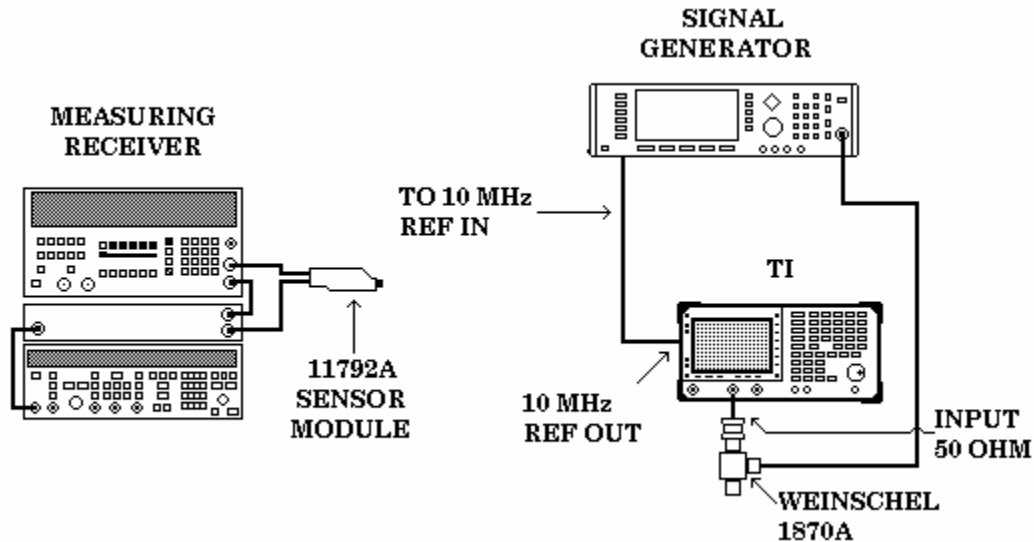

Figure 4. Frequency Response equipment setup.
- (1) Connect equipment as shown in figure 4.